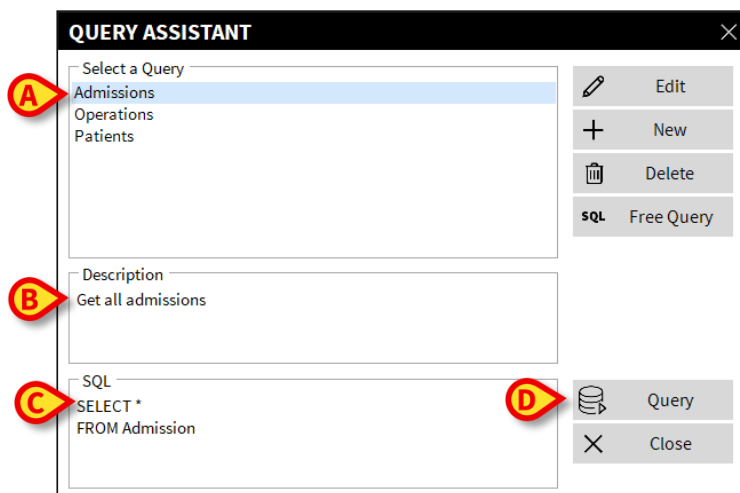

Fig 35
The name will be highlighted (Fig 35 **A**).
A textual description of the query is displayed in the “Description” area (Fig 35 **B**).
The “SQL” area (indicated in Fig 35 **C**) displays the content of the query in SQL language (Structured Query Language).
- Click the **Query** button (Fig 35 **D**).